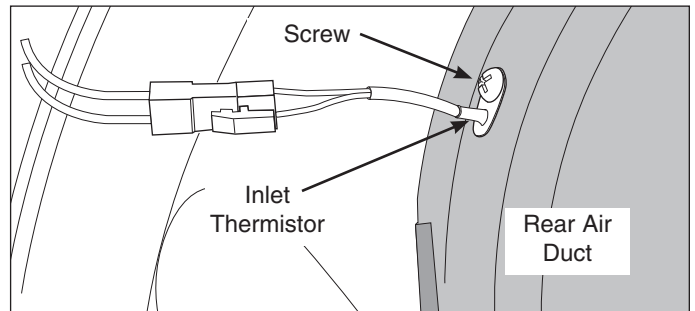

Figure 4-44.
2. From the rear of the unit, remove the inlet thermistor. (See Figure 4-44)